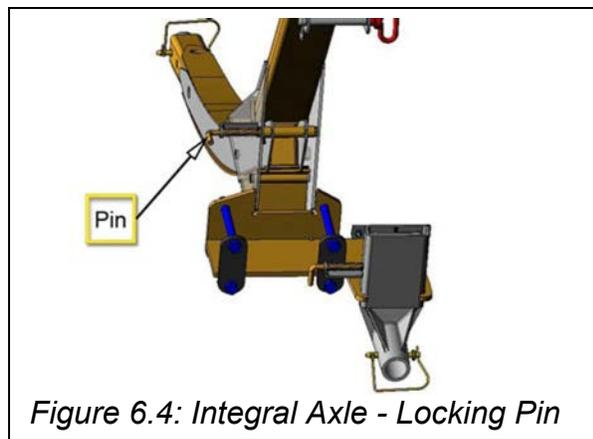

Figure 6.4: Integral Axle - Locking Pin
3. Support axle riser, pull lock pin. (See Figure 6.4: Integral Axle - Locking Pin)